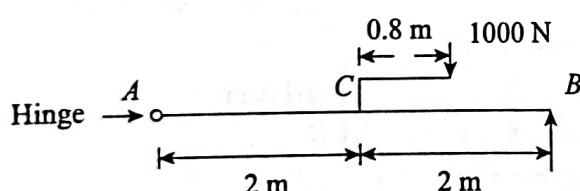

Figure 6.17
- 6.3 A beam AB is hinged at A and simply supported at B. A rigid bracket is attached to the middle point C of the beam is loaded as shown in Fig. 6.17. Draw SF and BM diagrams showing important values. What is the maximum BM and its position.